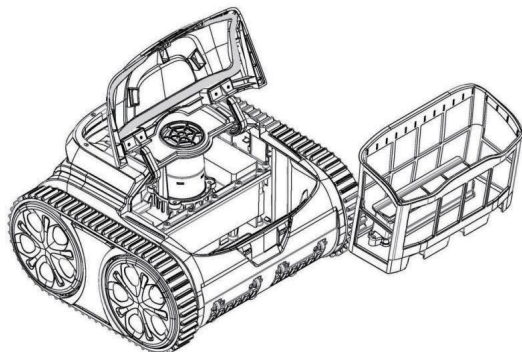

Figure 4-3
4.3.2 Take out the filter basket from the machine (Figure 4-3).